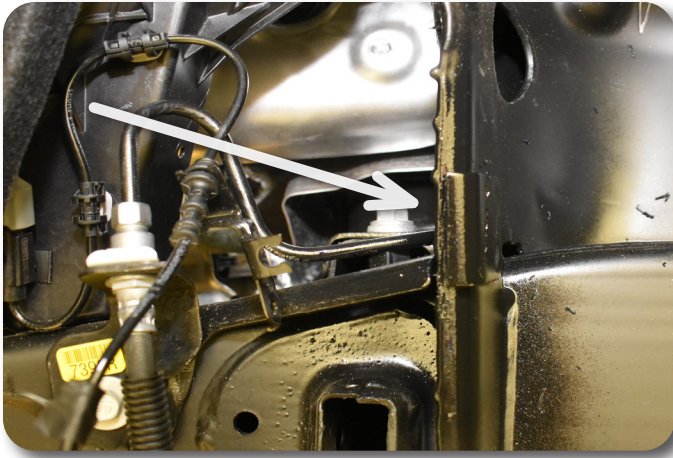

Figure 35
52. Cut the factory droop limiter from the side of the strut bucket as shown in Figure 35.